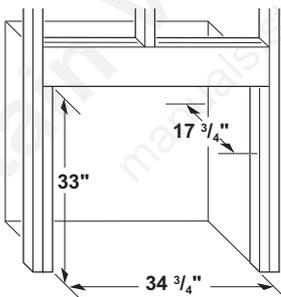

Figure 13 - Rough Opening for Installing in Wall
1. Frame in rough opening. Use dimensions shown in Figure 13 for the rough opening. If installing in a corner, use dimensions shown in Figure 18 for the rough opening. The height is 33", which is the same as the wall opening in Figure 13.